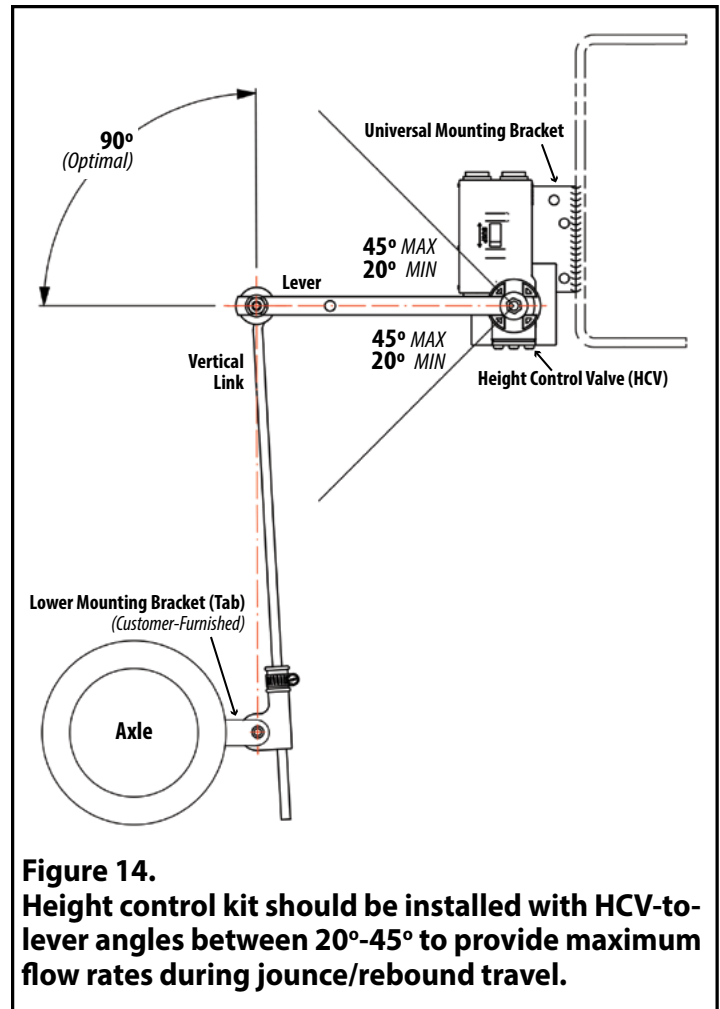

Figure 14. Height control kit should be installed with HCV-to-lever angles between 20°-45° to provide maximum flow rates during jounce/rebound travel.
4. Attach "P"-Connector to lower mounting bracket with lower pin. Torque to 90-120 in-lbs (Fig 14).
5. Set lever to neutral (center) position. Slide vertical link into "P"-Connector. Slide rod until grommet reaches the same height as the lever. Attach vertical link to lever with the upper pin. Torque to 60-80 in-lbs. Tighten P-Connector band clamp to hold the rod in place. Cut and remove excess rod, leaving about one-inch of rod beneath the P-Connector (Fig 14).